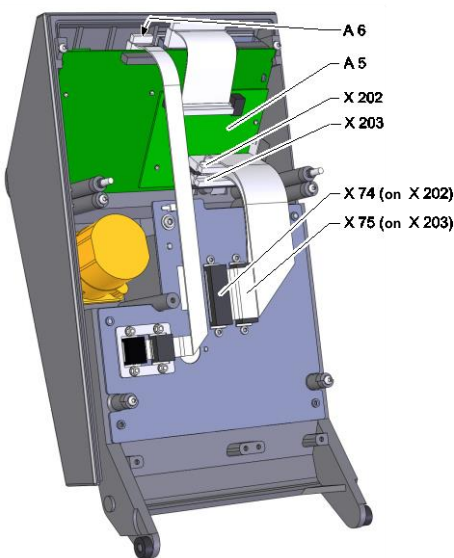

Fig. 1: Interface plate
- Plug in all connectors again (→ Fig. 1).